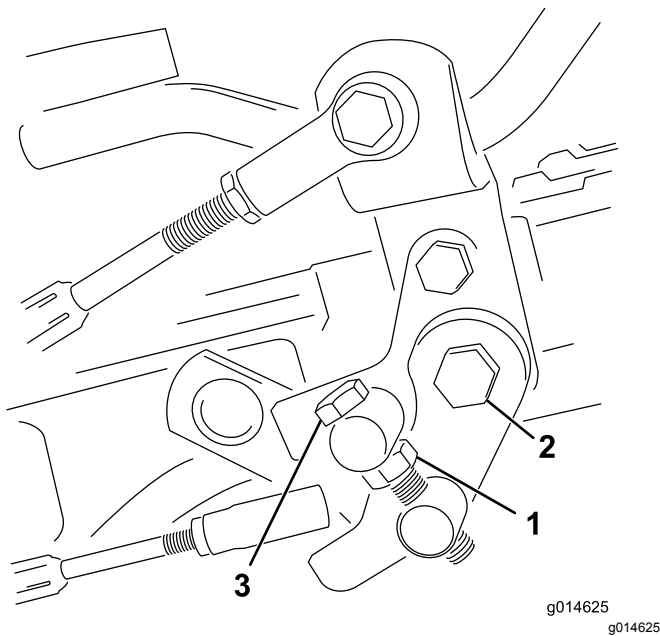

Figure 49
1. Loosen the jam nut on the trunnion bolt (Figure 49).
4. Tighten the jam nut on the trunnion bolt and the nut on the pedal pivot to lock the adjustment (Figure 49). Check the adjustment and adjust as required.